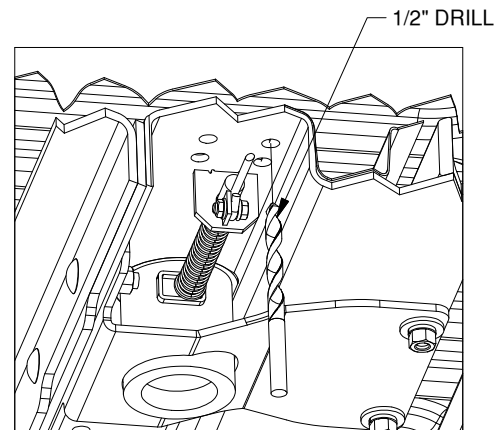

Figure I2: Cutaway view of bed and center section.
1. **Drill the holes.** From under the bed use a drill and a 1/2" drill bit to drill through the bed using the four holes that match up with a low rib in the truck as a guide. Remove any burrs created during the drilling process, see Figure I2.